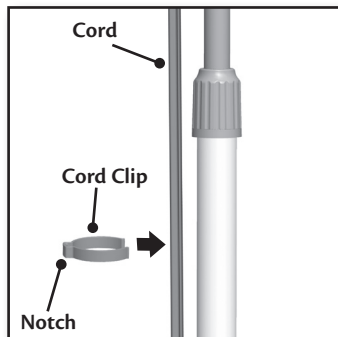

Figure 19
11. Straighten the cord from the motor housing along the telescoping pole and snap the cord clip over the cord onto the pole so that the cord rests in the notch on the clip. Figure 19.